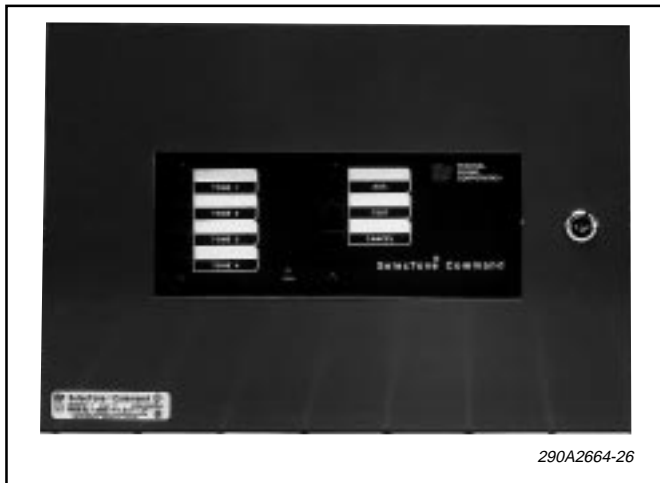

Figure 1-1. Model 300SCW-1 SelecTone® Command.
The Model 300SCW-1 SelecTone® Command (figure 1-1) is a UL listed and CSA certified central control device that is capable of generating up to four different tone signals on an audio line that is connected to remote speaker/amplifiers in a SelecTone System. The 300SCW-1 can control signal lines to Federal Signal Models 300GC, 300GCX, 300X, 302GC, 302GCX, 302X, and 50GC speaker/amplifiers and to other devices. It can also operate with standard speakers designed for 25Vrms line operation (15 watts max.). The 300SCW-1 has public address (PA) capability, allowing voice messages or instructions to be announced over the SelecTone system through an optional Model MNC-1 Microphone. The unit can also be used to play background music generated from an external source over the SelecTone system.